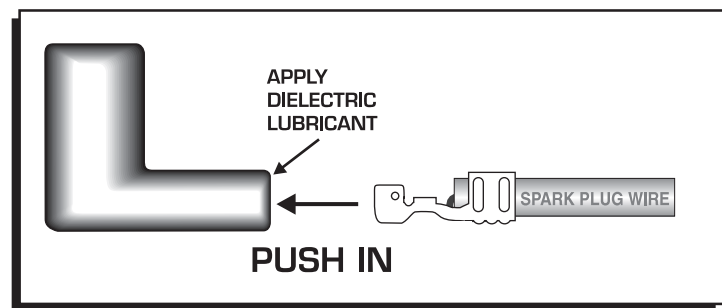

Figure 7 Positioning the Terminal in the Boot.
8. Apply dielectric (non conductive) lubricant to the inside of the boot. Grasp the boot and push the wire with the terminal into the boot until the terminal stops at the boot's 90° bend. Make sure the terminal is positioned in the boot so the open side of the terminal faces the open side of the boot (Figure 7).